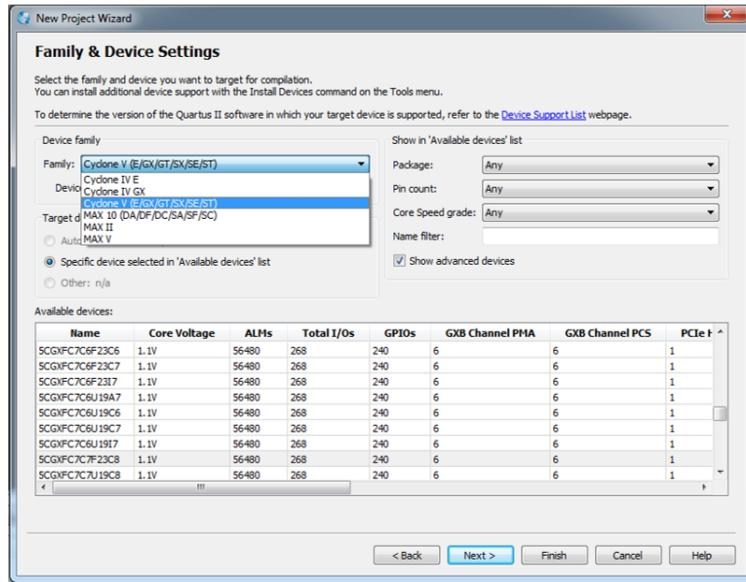

FIGURE 5.2 – Window “Family and Device Settings”
4. A window opens called “Family and Device Settings”. Select the right family of your component and then “next”. (Figure 5.2)